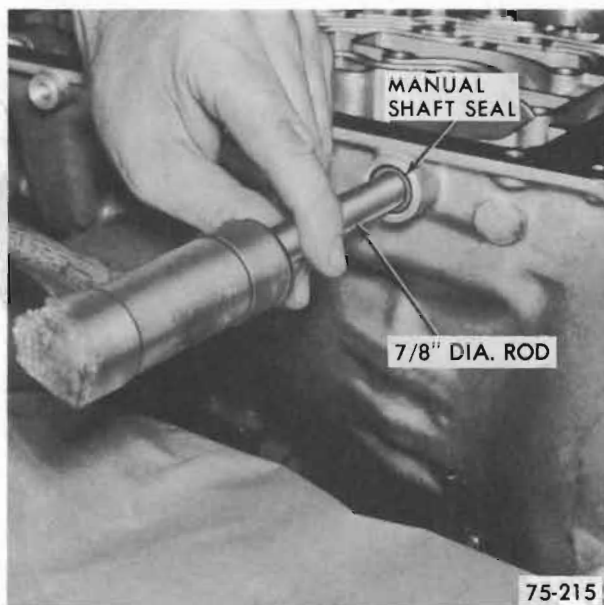

Figure 75-263
1. If a new manual shaft to case lip seal is necessary, use a 7/8" diameter rod and seat flush with case. See Figure 75-263.